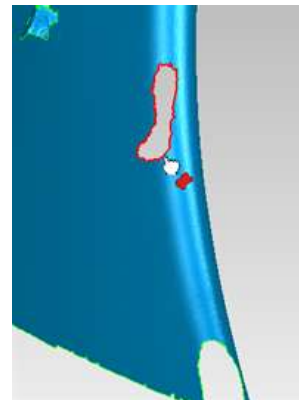

Figure 83
2. **Rotate** the view as shown in **Figure 83**.